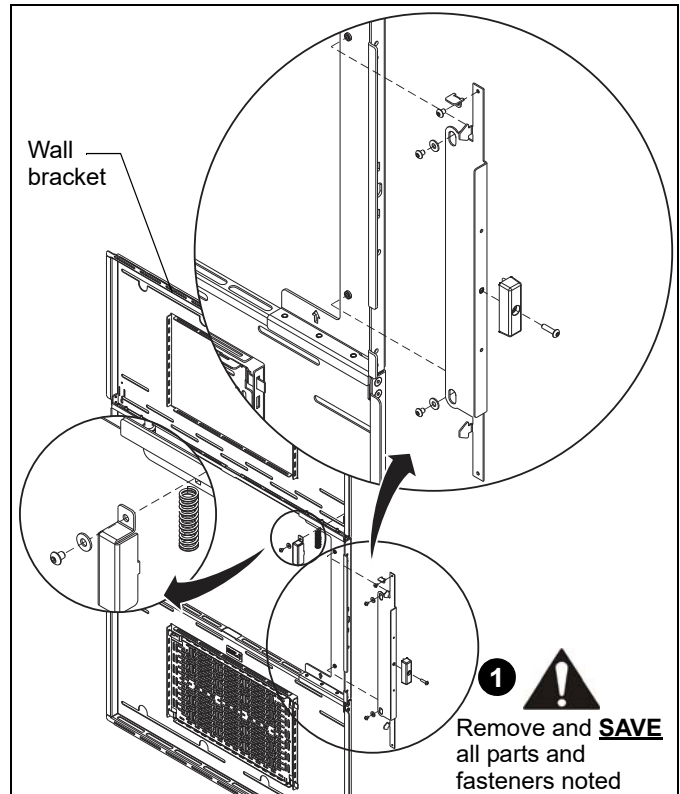

Figure 13
1. Remove **AND SAVE** the hardware on the latch (right) side of the wall bracket. (See Figure 13)